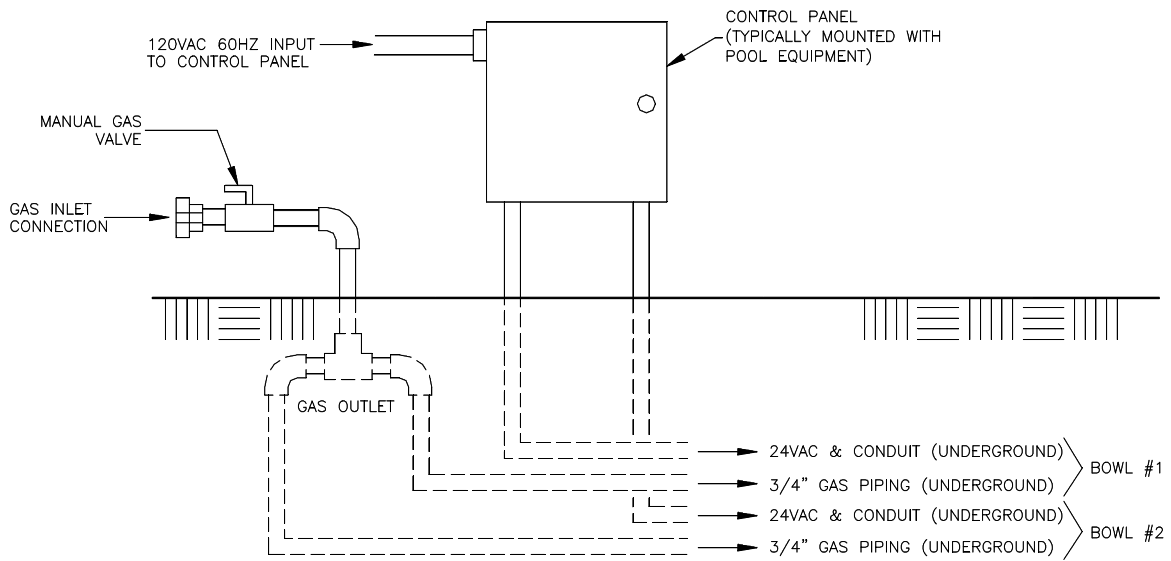
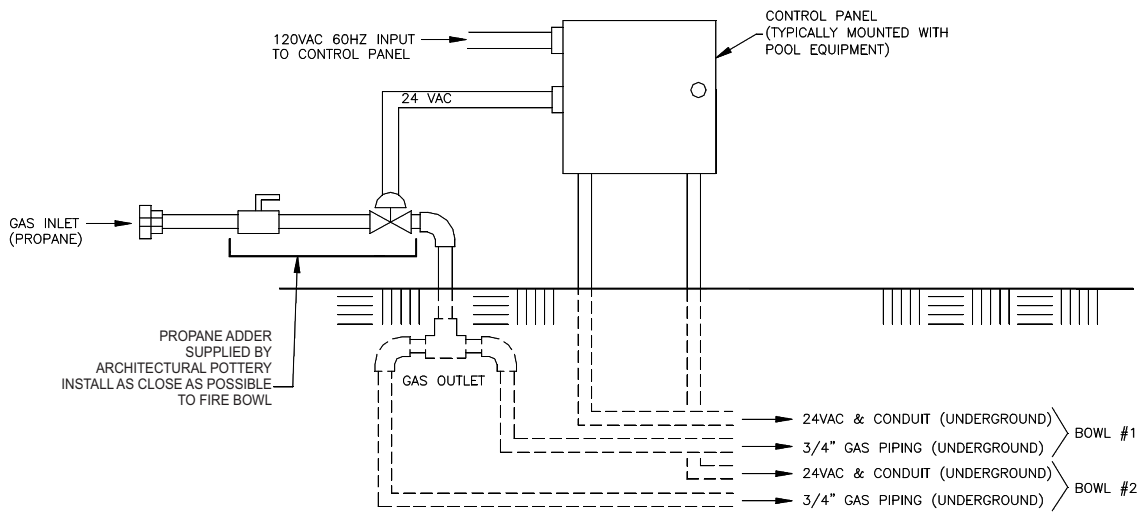
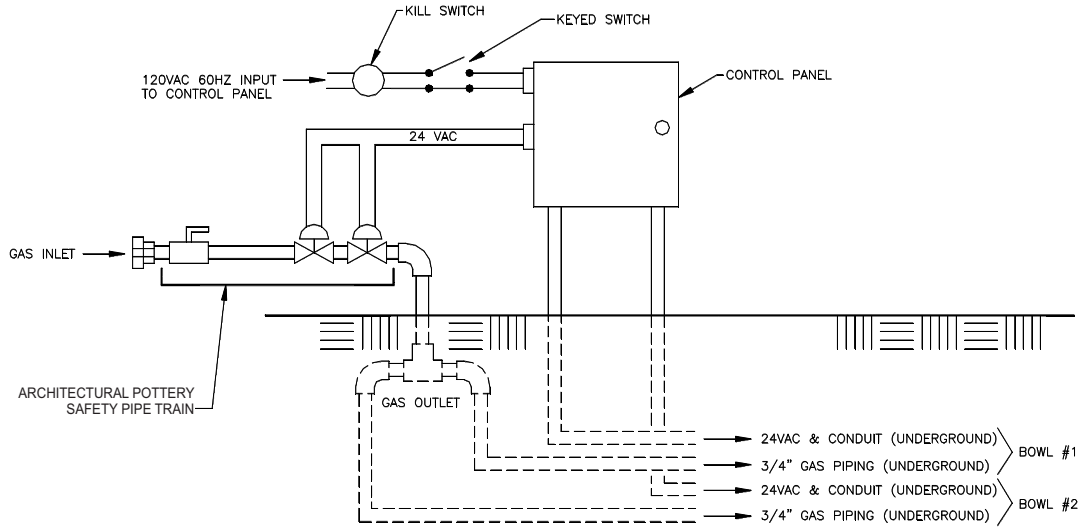
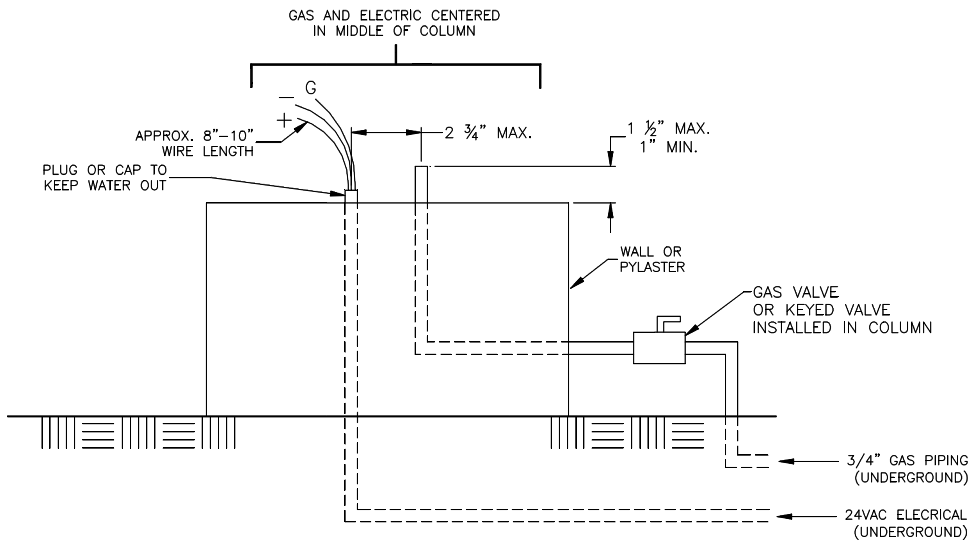

Fig. 1 (Natural Gas)
Fig. 2 (Propane Gas)
Fig. 3 (Commercial Installation)
Fig. 4
- 2.4 Install the Control Panel and gas piping as shown in Fig. 1(Natural Gas) or Fig. 2 (Propane Gas) or Fig.3 (Commercial Installation). Gas lines must be clean and free from any dirt, debris or contamination.
- 2.5 Note that propane piping is different than natural gas (shown in Fig. 1 and Fig.2).
- 2.6 The gas piping shall be installed underground between the Control Panel and each Fire Bowl as shown in Fig. 1. The piping shall be reduced to 1/2" NPT or larger at each bowl as shown in Fig. 4. At each bowl, a 90 gas pipe elbow must be installed on gas line for proper installation of gas hose. Do not kink or make tight radius bend on gas hose.
Note: The gas and electrical connection at each Bowl must be located at the center of each Bowl. The connections must be installed as shown in Figure 4.
- 4.1 The height of the flame can be adjusted at each Burner by opening or closing the ½” Gas Valve or Keyed Valve as shown in Fig. 4.